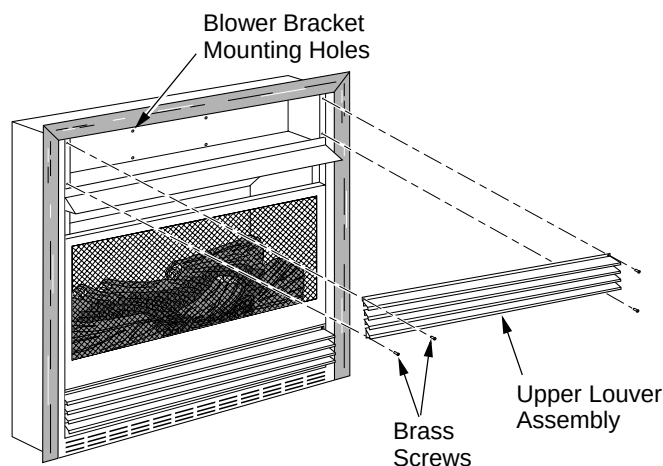
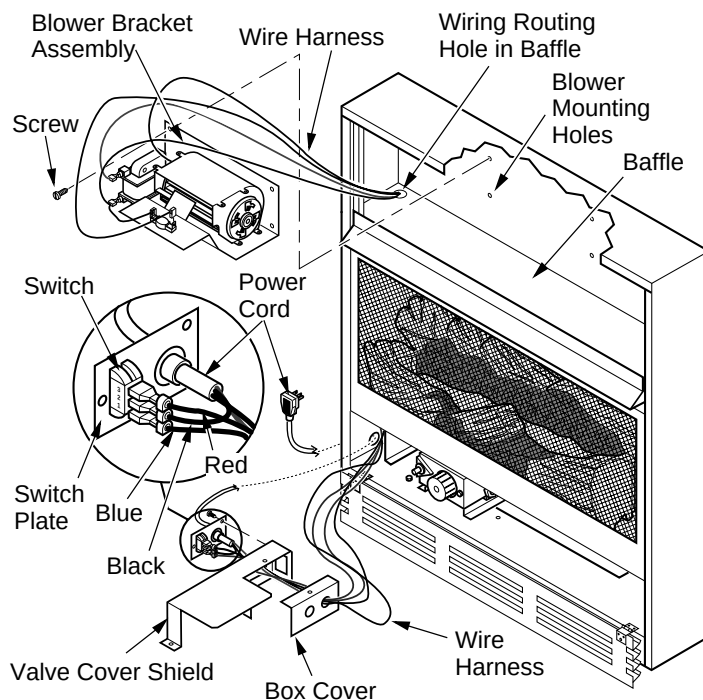
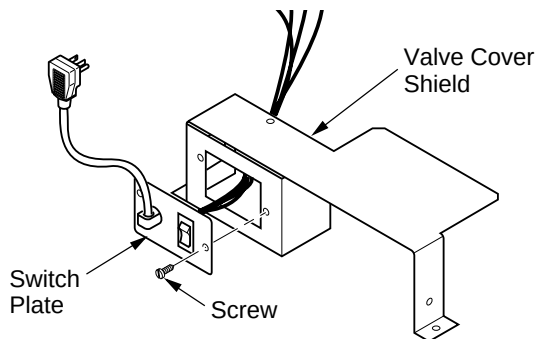

Figure 21 - Removing Upper Louver Assembly
Figure 23 - Installing Blower Bracket Assembly
Figure 25- Installing Switch Plate to Valve Cover Shield
1. Remove 4 screws from upper louver assembly (see Figure 21). Save these screws.
3. Note the wire locations on back of AUTO/OFF/ON switch. The terminals on back of switch are numbered 1, 2, and 3. Carefully remove red wire from terminal 3 and blue wire from terminal 1. Black wire can remain on middle terminal 2 (see Figure 23).
5. In top of the fireplace cabinet, locate the four mounting holes on the outer casing. Align these four holes with those on the blower bracket assembly. Attach blower bracket assembly to the outer casing with 4 #10 screws provided (see Figure 23).
6. Route the wire harness through the hole in left side of baffle. Pull wire harness through lower opening above where the valve shield was removed. (see Figure 23).
- Insert the 4 wire harness into one of the round holes in the rear of the valve cover shield and through the rectangular hole in the front of shield (see Figure 23, page 15).
- Install the switch plate on the valve cover shield with 2 #10 screws provided (see Figure 25). Reinstall the valve cover shield. Route power cord out of the cabinet by inserting it through the bushing on the outer casing (see Figure 23, page 15). Plug fan kit into 120-Volt grounded power supply and test operation. *Note:* When switch is in the AUTO position, the fan will start after the fireplace has run for a few moments. The fan will continue to run for several moments after the fireplace has been turned off. When switch is in the ON position, the fan will run until turned OFF. Reinstall upper louver assembly and hood if previously removed, (see Figure 21, page 14). Close lower louver door.
- Reinstall upper louver assembly and hood if previously removed, (see Figure 21, page 14). Close lower louver door.